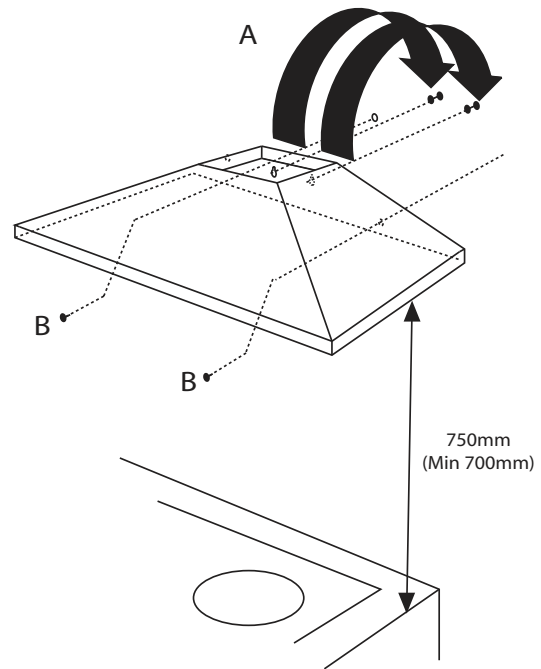

Fig 4.
- The top two hood securing positions are keyhole slots; screw these screws A in first leaving approximately 2 mm between the screw head and the wall (fig 4.)